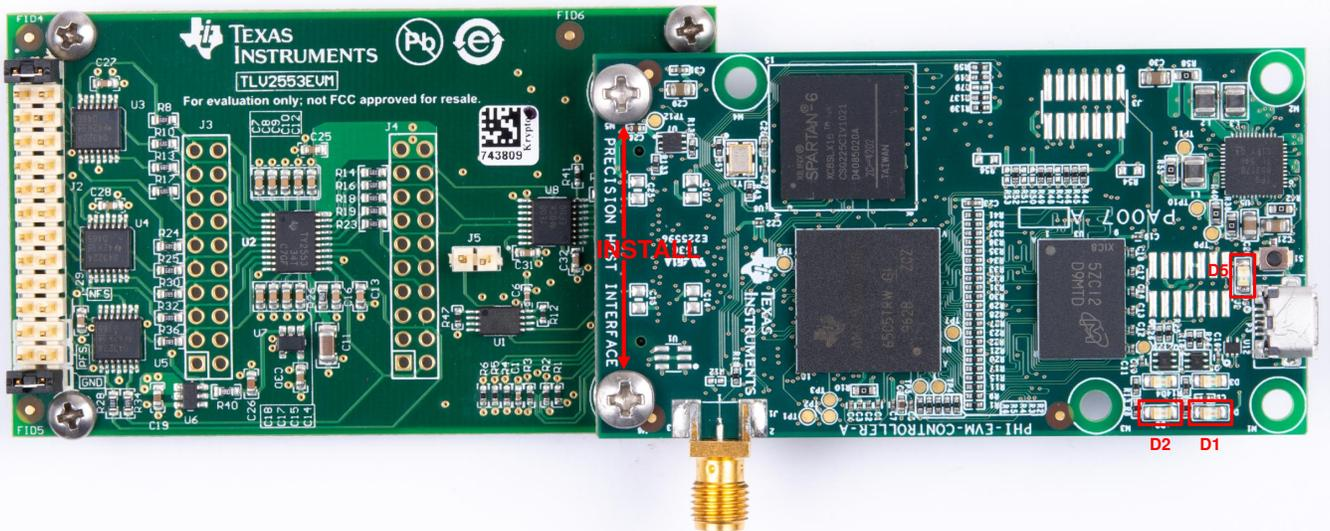

**Figure 7. TLV2553EVM-PDK Installation Final Step**
4. If you would like a Desktop shortcut, check the *Create Desktop Shortcut* box, as shown in Figure 7.